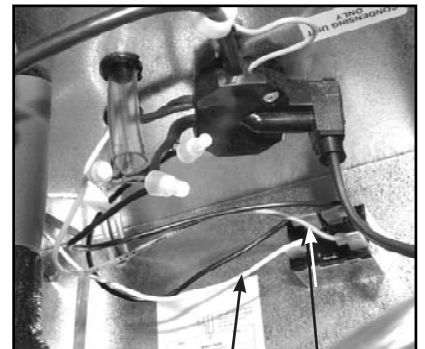

Figure 7
F. Connect both ends of the previously cut ribbed wire with a 14ga loose black wire using a supplied Sta-con. Connect other end of wire to the normally open contacts of the relay. (See figure 7 & 10 for the next 3 steps).